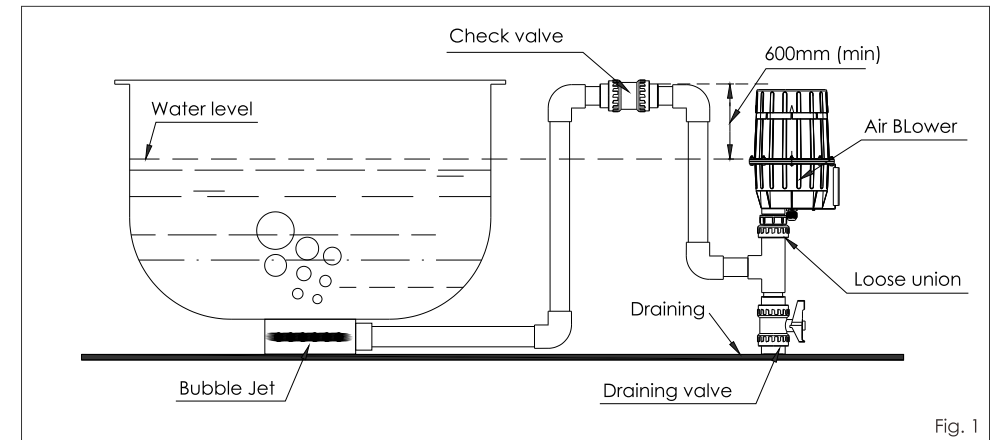

Fig. 1
- The check valve must be installed above the water level to prevent water from entering the air blower pump (see Fig. 1).